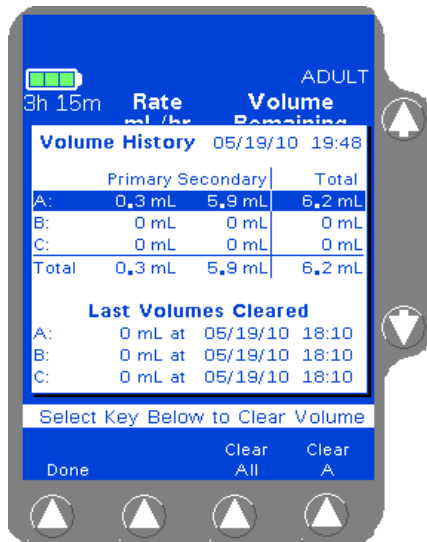

Figure 4-90 Volume History Screen
1. Press the **Volume History** key to display the Volume History screen (Figure 4-90).